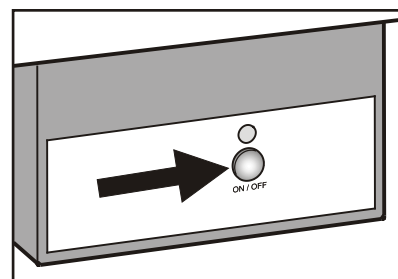

Figure 20
- Press the button on the Ice Maker housing (**Figure 20**) for approx. 3 seconds. The LED above the button starts blinking.
*The Ice Maker can also be turned on and off by pressing the "On/Off" button at the Ice Maker housing for approximately 1 second (**Figure 20**).*